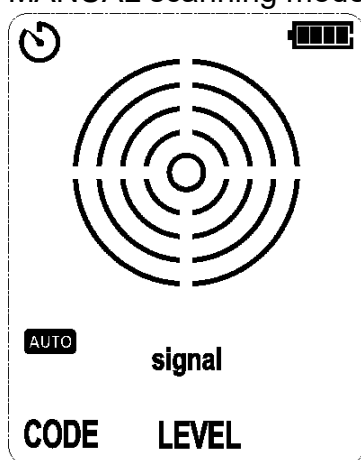

Figure 6.2.1a Auto Mode
- The receiver is in power-on state by default, short press the AUTO/MANUAL button to switch to MANUAL scanning mode (reception level mode is 6), as shown in Figures 6.2.1a and 6.2.1b.